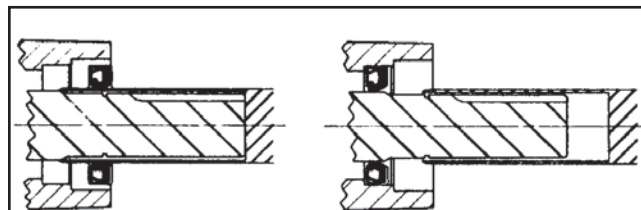

FIGURE 2
- b. Slide the pilot ring over the Input Shaft shoulder so the seal lip points toward the Clutch Housing. Press the Shaft Seal into the Clutch Housing and remove the pilot ring (See Figure 2).